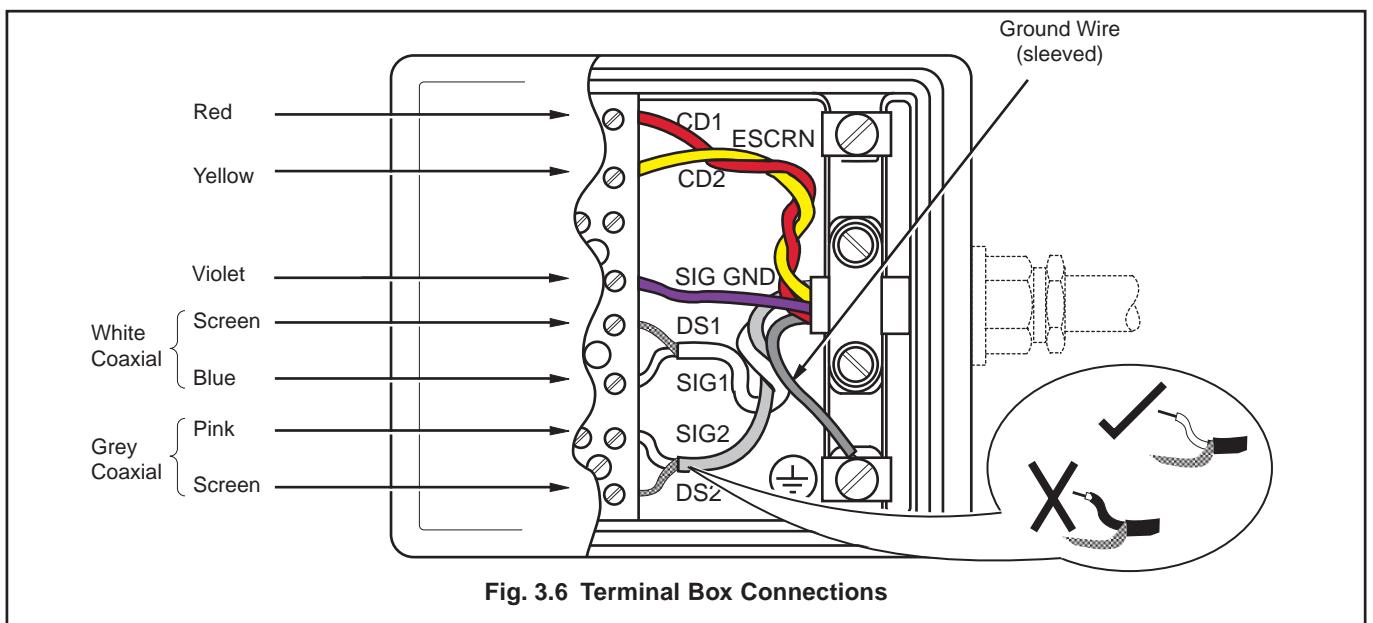

Fig. 3.6 Terminal Box Connections
3.4 Sensor Terminal Box Connections (Remote System) – Fig. 3.6